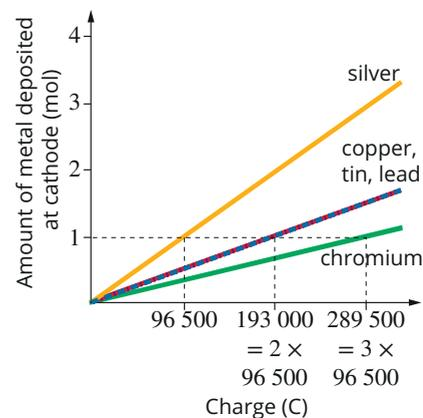

FIGURE 8.3.8 Variation with charge of amount of metal (in moles) formed at the cathode for different metal-plating cells
Although the data for each metal obeys Faraday's first law, at first inspection there seems little relationship between the graphs for each metal. However, if the amount of each metal, measured in moles, is graphed against charge, the results are more interesting (Figure 8.3.8). All the data lies along just three lines. One mole of silver is produced by about 96 500 coulombs (C) of charge, whereas one mole of copper, tin or lead is produced by 193 000 (which is $2 \times 96\,500$) coulombs.
This is just what you can observe in the graph in Figure 8.3.8. Three different lines on the graph arise because of the different charges on the metal ions.